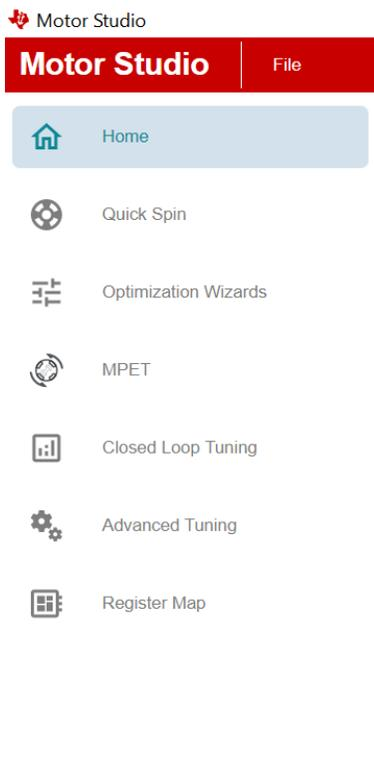

Figure 3-3. Sections in MOTORSTUDIO
Manual measurements done in the previous section (Table 3-2) can now be entered into MOTORSTUDIO. Expand the left panel as shown in Figure 3-3 to navigate between sections in MOTORSTUDIO
Step 1: Click *MPET* (Refer Figure 3-3).